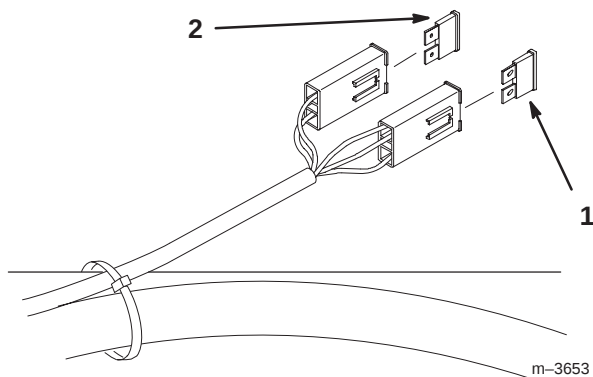

Figure 53
- Raise the seat to gain access to fuse holder (Fig. 53).
2. To replace fuses pull out on the fuse to remove it (Fig. 53).